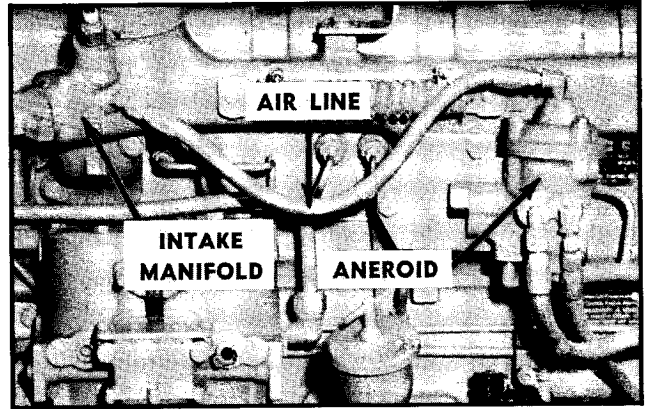

Fig. 12-97. Aneroid to air intake manifold line
9. Connect line from aneroid to air intake manifold. See Fig. 12-97.